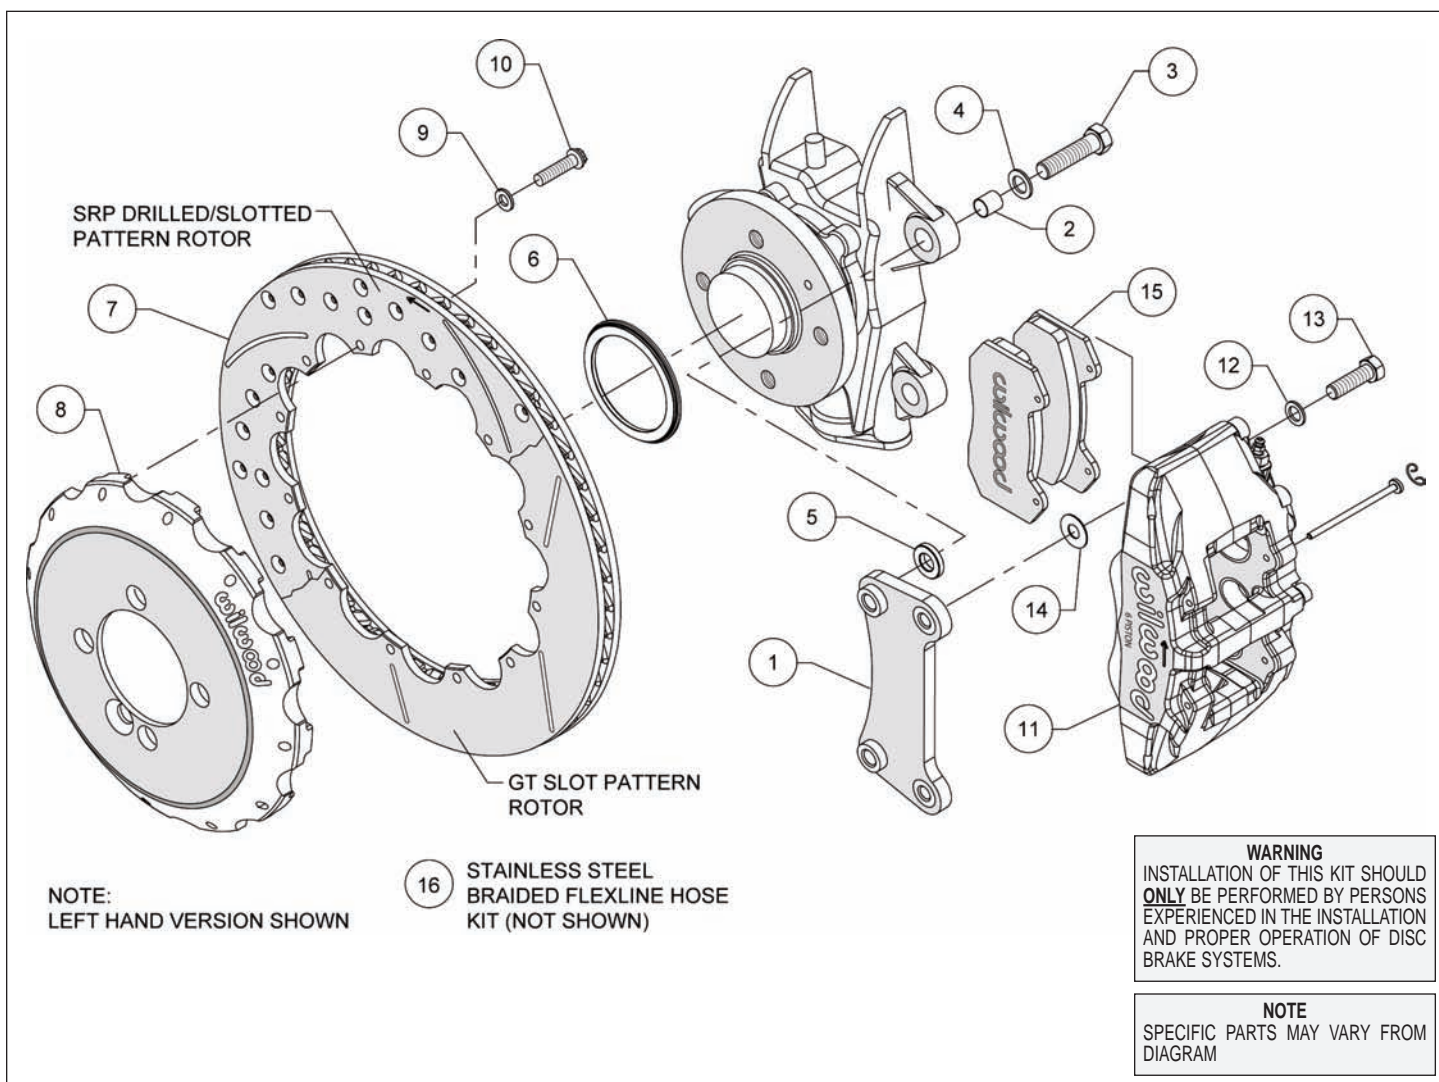
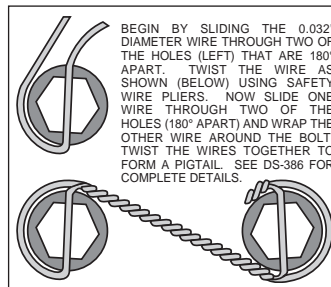
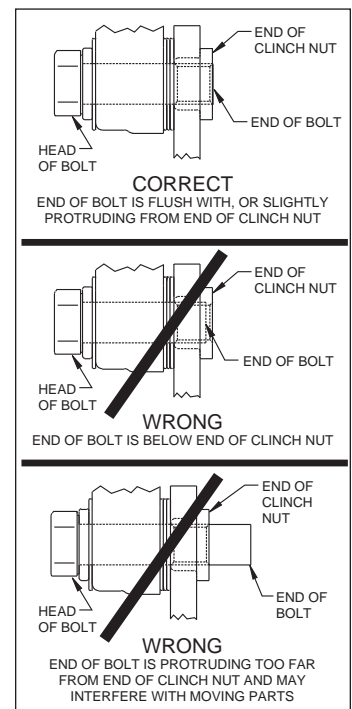

Figure 1. Typical Installation Configuration
Figure 3. Safety Wire Diagram
Figure 4. Clinch Nut Engagement Diagram
Assembly Instructions (numbers in parenthesis refer to the parts list and Figure 1 on the preceding pages): **CAUTION:** All mounting bolts must fully engage clinch nuts. Be sure to check that all bolts are either flush or protruding through flanged side of clinch nut after shimming, Figure 4.
- Orient the caliper mount bracket (1) as shown in Figure 1 and Photo 1, and install using bolts (3), washers (4), and spacers (5). Insert one sleeve (2) into each of the upright mounting lug holes, Figure 1. Place the spacer between the Original Equipment Manufacturer (OEM) mounting lug and the bracket, Figure 1. Ensure that the flanged heads of the clinch nuts in the bracket are facing outboard, Photo 1. Temporarily tighten the mounting bolts. **NOTE:** The bracket must fit squarely against the mount bosses on the upright. Inspect for interference from casting irregularities, machining ridges, burrs, etc. Remove bolts one at a time, apply red *Loctite*[®] 271 to the threads and torque to 60 ft-lb.
- Orient the rotor (7) and the hat (8) as shown in Figure 1 and Photo 2. Attach rotor to hat using bolts (10) and washers (9). Using an alternating sequence, apply red *Loctite*[®] 271 to the threads, and torque to 155 in-lbs. For an added measure of security, the bolts may be safety wired using standard 0.032 inch diameter stainless steel safety wire as shown in Figure 3. Please refer to Wilwood's data sheet DS-386 (available at www.wilwood.com/Pdf/DataSheets/ds386.pdf) for complete safety wire installation instructions.
- Slide the rotor registration adapter (6) onto the axle register on the axle hub with the smaller O.D. facing toward the rotor/hat (7/8), Photo 3. Align the locating hole in the hat to the hub and slide the hat/rotor assembly onto the hub. **NOTE:** The hat must fit flush against the hub flange or excessive rotor run out may result. Install the stock hat locator bolt and torque to OEM specifications.
- **NOTE:** Please reference the caution statement at the beginning of the assembly instructions. This kit contains distinct right and left hand calipers that must be mounted in a specific direction, as described below. Mount the caliper (11) onto the caliper mounting bracket (1) using bolts (13) and washers (12), as shown in Figure 1. Initially place one .035" thick shim (14) on each bolt between the caliper and the bracket, Photo 4. Ensure that the caliper is mounted so the largest pistons are at the rotor exit end of the caliper, in relation to the direction of rotor rotation. Temporarily tighten the mounting bolts and view the rotor (7) through the top opening of the caliper. The rotor should be centered in the caliper, Photo 5. If not, adjust by adding or subtracting shims between the bracket and the caliper. Always use the same amount of shims on each of the two mounting bolts. **NOTE:** The end of each bolt must be flush with or slightly protruding from the head of the clinch nut, as shown in Figure 4. If necessary place spare shims between washer (12) and caliper mounting ear to achieve the proper clinch nut engagement. Once the caliper alignment and clinch nut engagement are correct, remove the mounting bolts and caliper.
- Remove the two pad retaining pins from the caliper (11) by carefully popping out the pin retaining clips and sliding out the pins. Insert the brake pads (15) into the caliper from the bottom, Figure 1 and Photo 6, with the friction material facing the rotor. Secure the brake pads in place with the pad retaining pins and clips, Photo 7. Reinstall the caliper onto the caliper mounting bracket. Apply red *Loctite*® 271 to bolt threads (13), and torque to 40 ft-lb.